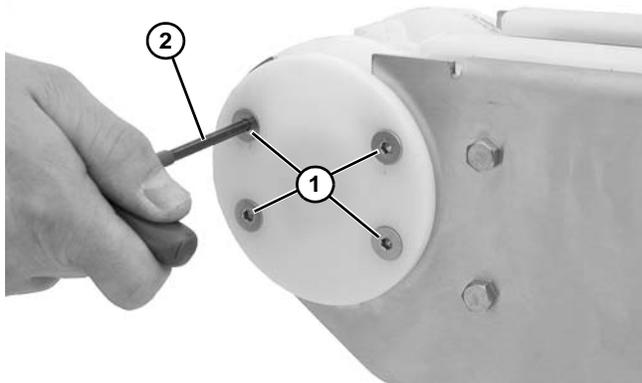

Figure 54
8. Remove four flat head screws (Figure 54, item 1) with an allen wrench (Figure 54, item 2).